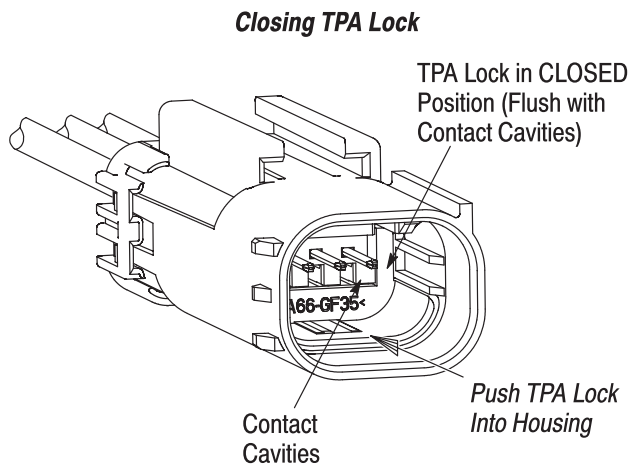

Figure 3
4. After all contacts are inserted, push the TPA lock into the housing until the TPA lock is in the CLOSED position. Make sure to avoid pushing the tips of the contacts. The TPA lock is in the CLOSED position when it is flush with the contact cavities. See Figure 3. The recommended method of closing the TPA lock is to mate the cap connector with an empty plug connector.